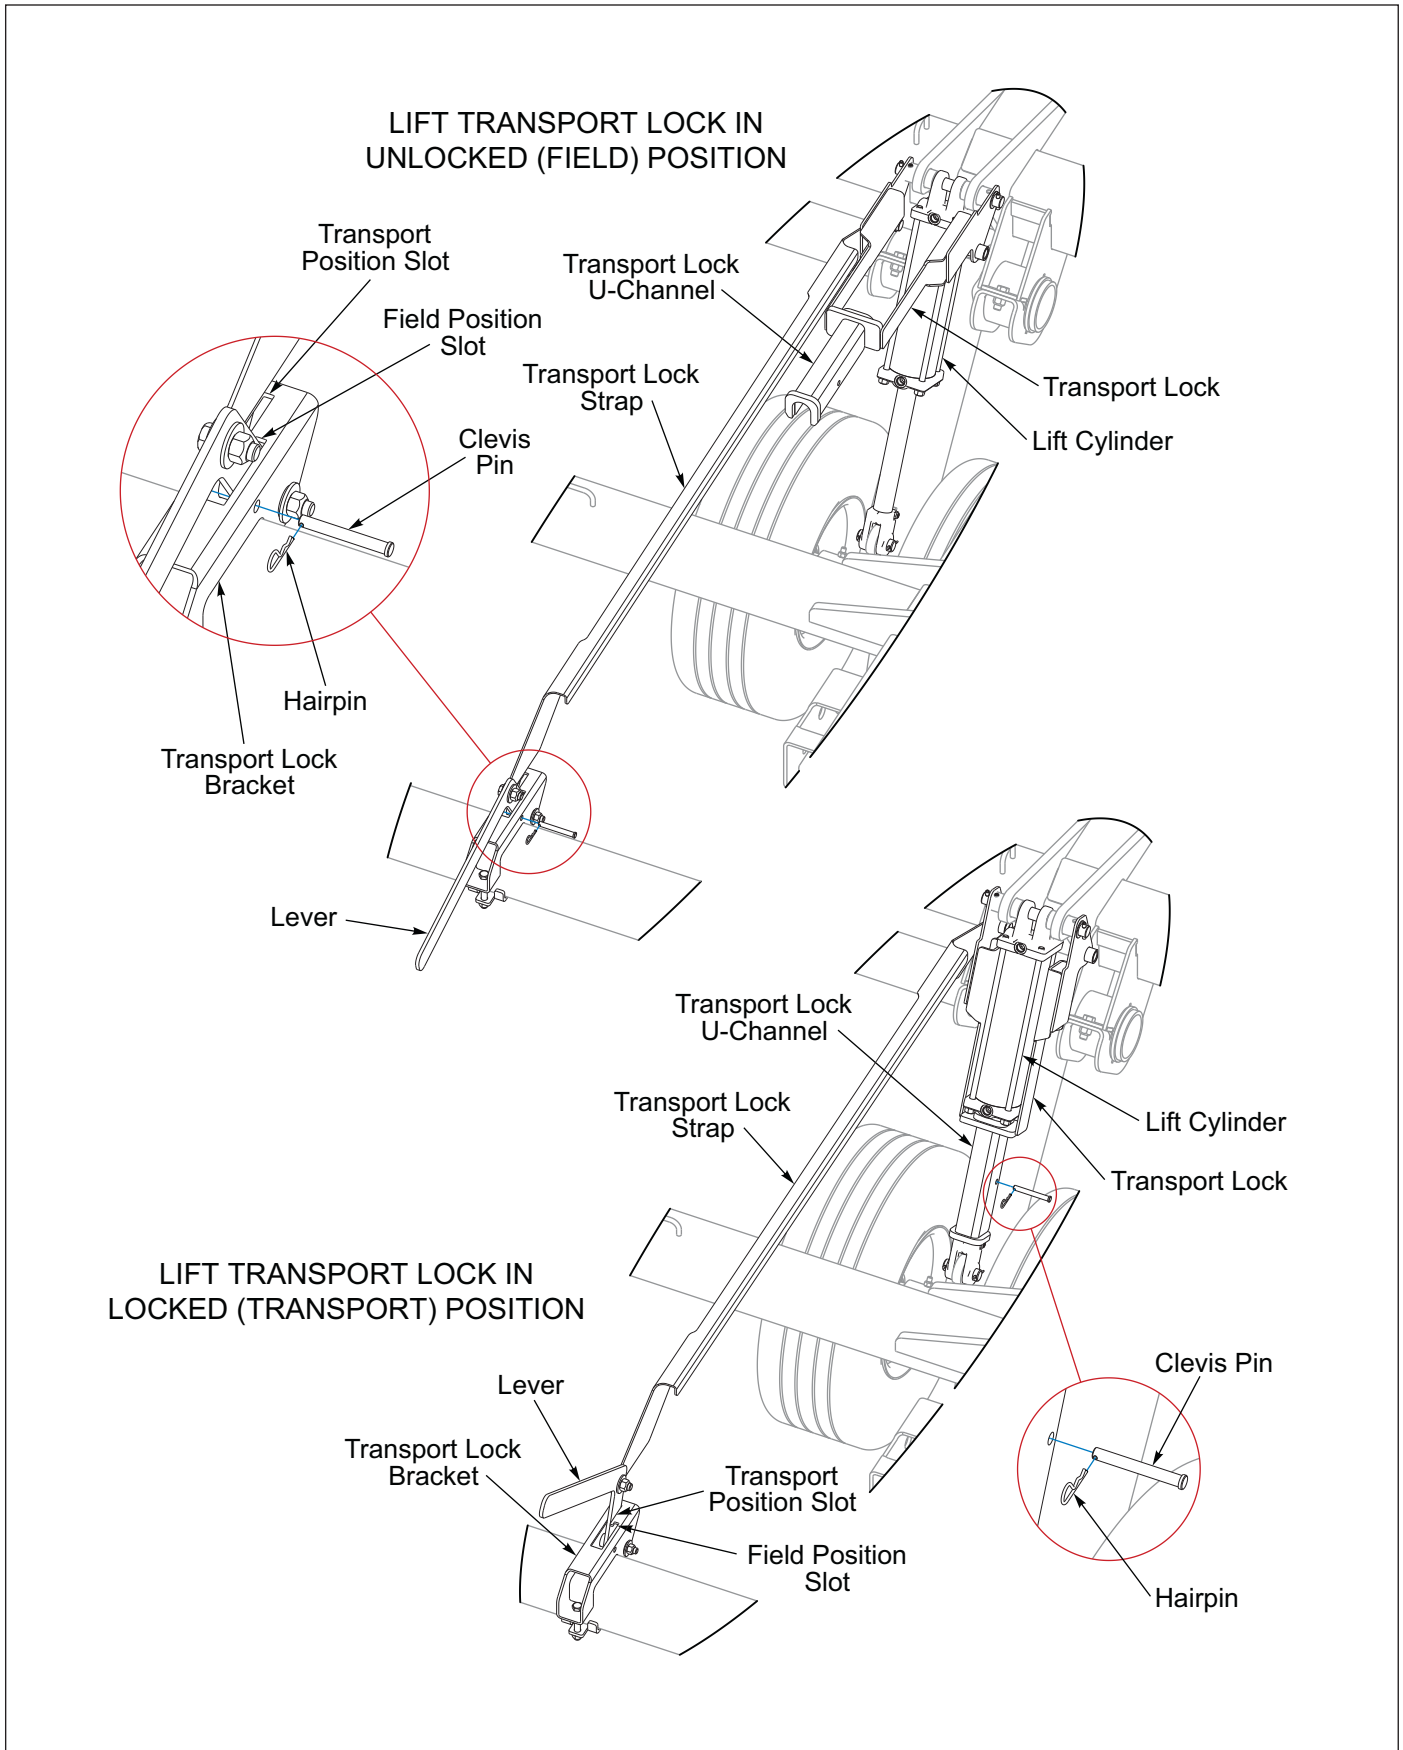
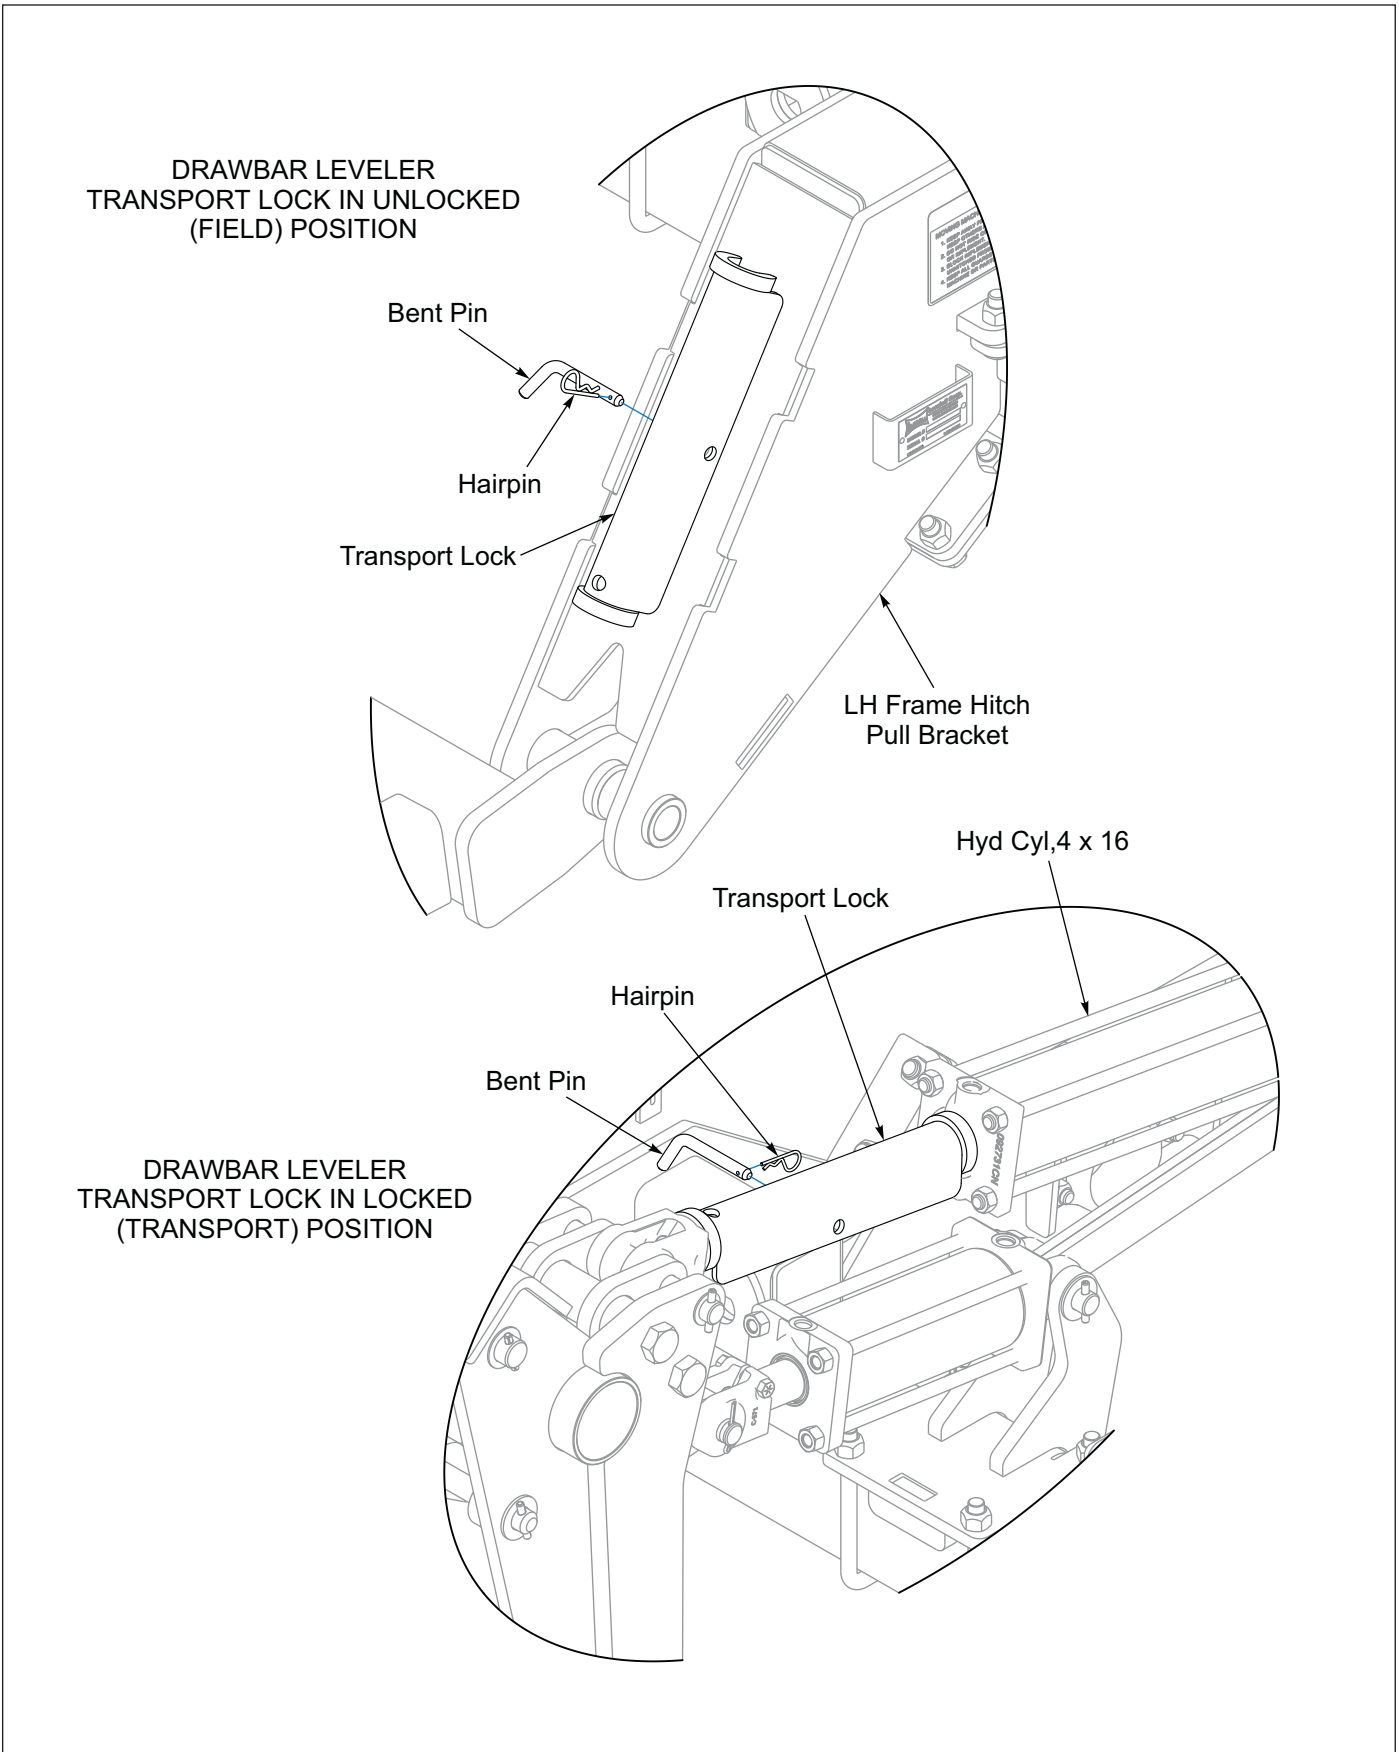
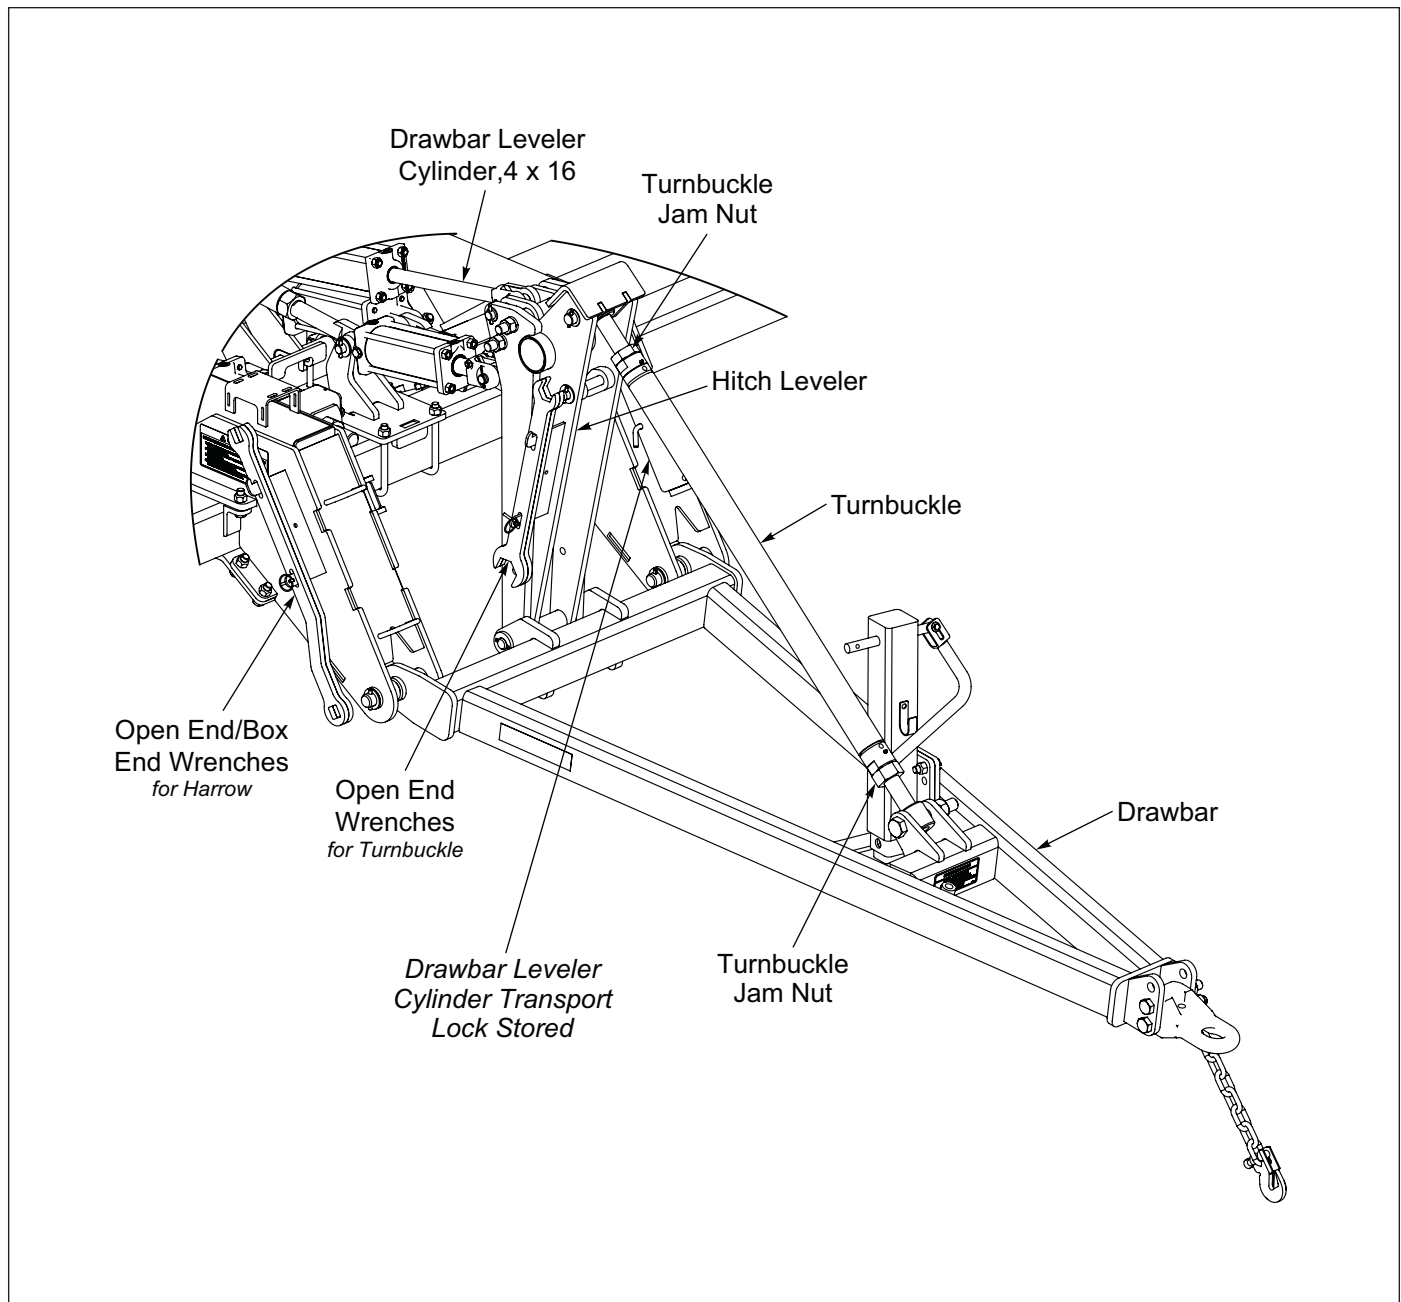

Figure 3-5: Rockshaft Transport Lock Positions
Figure 3-6: Hitch Leveler Lock Positions
Figure 3-7: Drawbar Turnbuckle Adjustment
4. Fully extend the Hydraulic Lift Wheel Cylinders and place the Cylinder Lockouts in the Transport Lock Position over the Cylinder Rods. Secure the Lockouts with the Lockout Pins. **See Figures 3-5 and 3-6.** Install Transport Lock over Leveling Cylinder. **See Figure 3-6.**
5. To relieve pressure put circuit in float and machine should remain raised. Be sure to use transport locks. See Figures 3-5 and 3-6.
2. Actuate the Levers at the rear of the machine to raise the Transport Locks to Field Positions. **See Figure 3-5.**
5. Remove Hitch Leveler Transport Lock, Bent Pin and Hair Pin from Hitch Leveler Cylinder and store it on Hitch Leveler Mast Tab. Install Bent Pin and Hairpin. **See Figure 3-6.**
2. Actuate the Levers by sliding the Lever in the Lever Bracket to the Transport Lock Position. The Transport Lock should be over the Rockshaft Cylinder Rod. **See Figure 3-5.**
4. Remove Hitch Leveler Transport Lock, Bent Pin and Hairpin from Hitch Leveler Mast Tab and place Transport Lock over the Hitch Leveler Cylinder Rod. Install Bent Pin and Hairpin. **See Figure 3-6.**
The Pulvi-Mulcher drawbar is designed to float in Field Position and lock into a set position in transport. Depending on tractor hitch height, the Turnbuckle may need to be adjusted to level machine front to rear in transport. Use the open end wrenches located on the Hitch Leveler. See Figure 3-7. Machine may need to be lowered to make adjustment. Remove all transport locks before lowering and ensure shanks are raised. See Figures 3-5 and 3-6.
9. Install Transport Locks on lift systems. Do not depend solely on implement hydraulics for transport. **See Figures 3-5 and 3-6.**